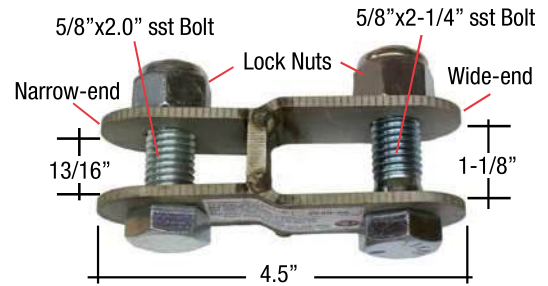
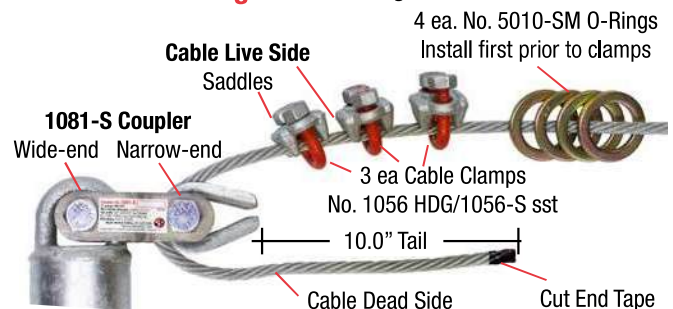
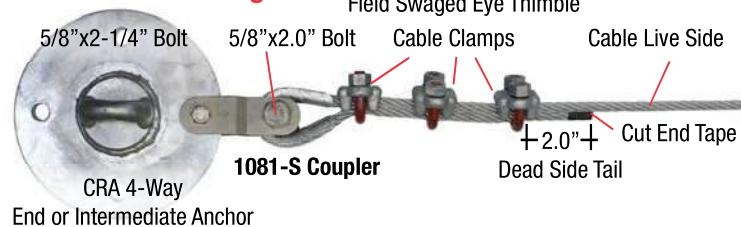

Fig.2
Fig.4 Field Swage Cable Clamps
Fig.6
SAS factory engineered HLL system components are specified for A-end and B-end installation using this manual as a guide. The A-end is installed with a **TB** (Turnbuckle), **EA** (energy absorber) and field swaged eye splice as shown at Fig.4. The B-end is installed with a factory swaged eye thimble shown at Fig.2. Components are linked using SAS supplied couplers. In order to provide cable adjustment using the A-end **TB**, the B-end is usually rigged first.
**Factory Swaged:** Shown at Fig.2 attach the wide end of coupler 1081-S to CRA loop top or 4-Way with a 5/8"x2-1/4" bolt. Attach eye thimble to the narrow end of the coupler with a 5/8"x2.0" bolt. Tighten lock nuts. Bolt threads should penetrate the lock nut a min. of 1/8". See Fig.6.
- 3) Feed cable dead side through cable clamps. Saddles MUST be on the live side only. Extend dead side of cable 10" from eye thimble end. Using a vise-grip, as shown at Fig.4, clamp both sides of the cable against the eye thimble to prevent movement when attaching the cable clamps.
- 4) Position clamp #1 as close to the eye thimble end as possible as shown at Fig.4, and hand tighten to prevent movement.
Tighten all lock nuts and confirm thread penetration, Fig.6
- 5) Feed cable dead side through clamps. Clamp cable to eye thimble as shown at Fig.4 and secure clamp #1 as close to thimble end as possible and tighten.